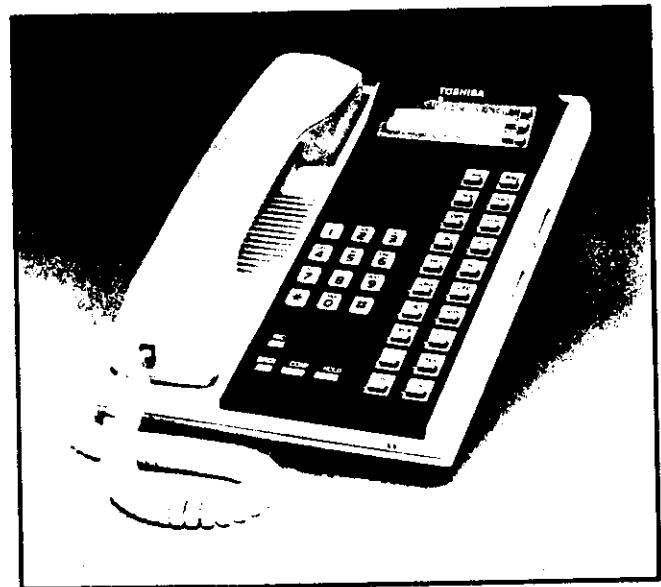

FIGURE 11—20-button LIQUID CRYSTAL
- 4) A 20-button LCD electronic telephone is available as a speakerphone only, equipped with a 32-character, alphanumeric Liquid Crystal Display (Figure 11).